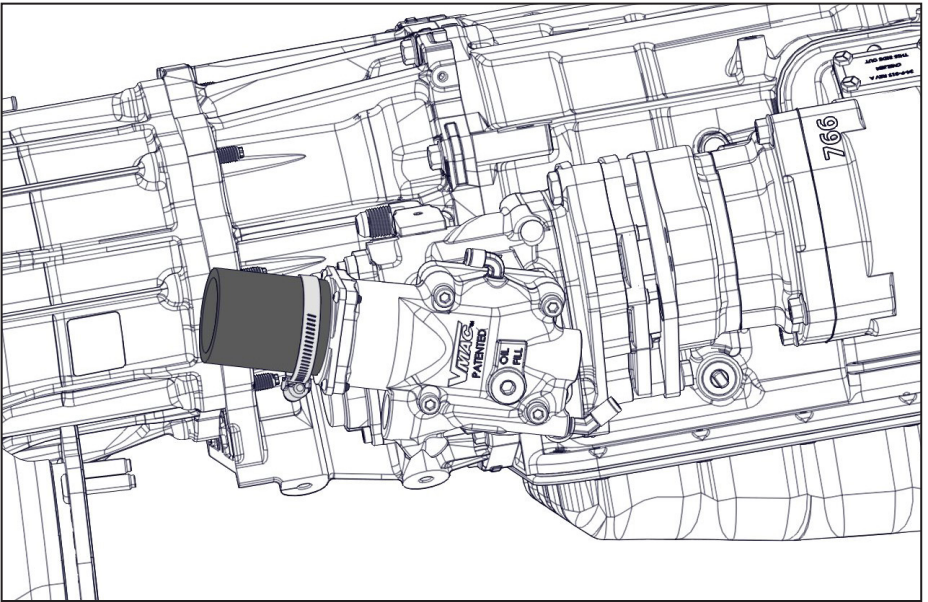

Figure 19 — Install intake hose
- ☐ Install the rubber air intake hose coupler onto the inlet and secure it using a gear clamp (Figure 19).